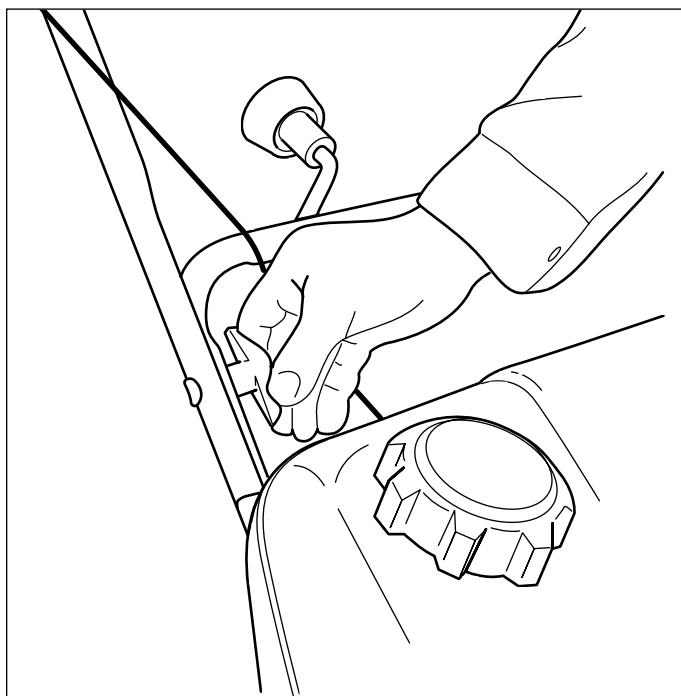

Figure 3. Lift Handles and Lock Wing Knobs
3. Lift up folding handle to align it with lower handle and tighten the wing knobs securely as shown in Figure 3.